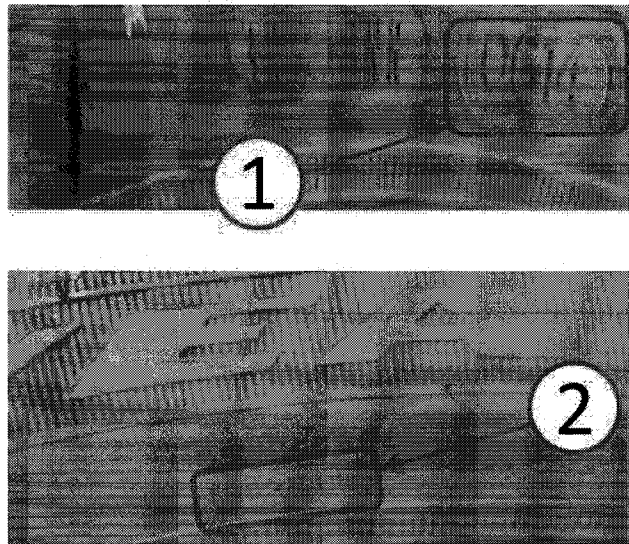

Fig. 1 Tire DOT and Mold Number Inspection
3. Inspect the Department of Transportation (DOT) date of manufacture range (1) (Fig. 1).
4. Inspect the tire mold identification number (2) that is located below the letters E and A of the GOODYEAR logo (Fig. 1).